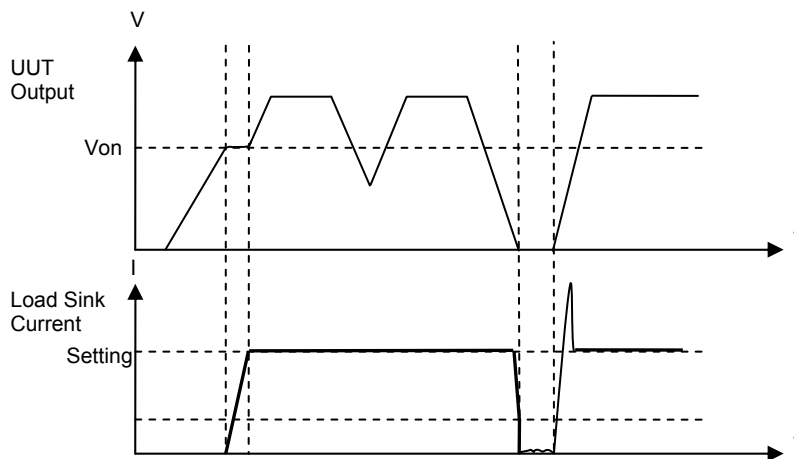

Figure 3-19 Von Point is not set to 0V without Protection
- (4) When it is “LOAD ON”, VON POINT is not set to 0V and Von Protection is disabled, switch the SW to on after it was turned off for a period of time and then turn it off again. The current loading still goes on when there is no power, and overshoot may occur once the SW is turned off with any power input as Figure 3-19 shows. It may damage the UUT and the DC Load in this case.